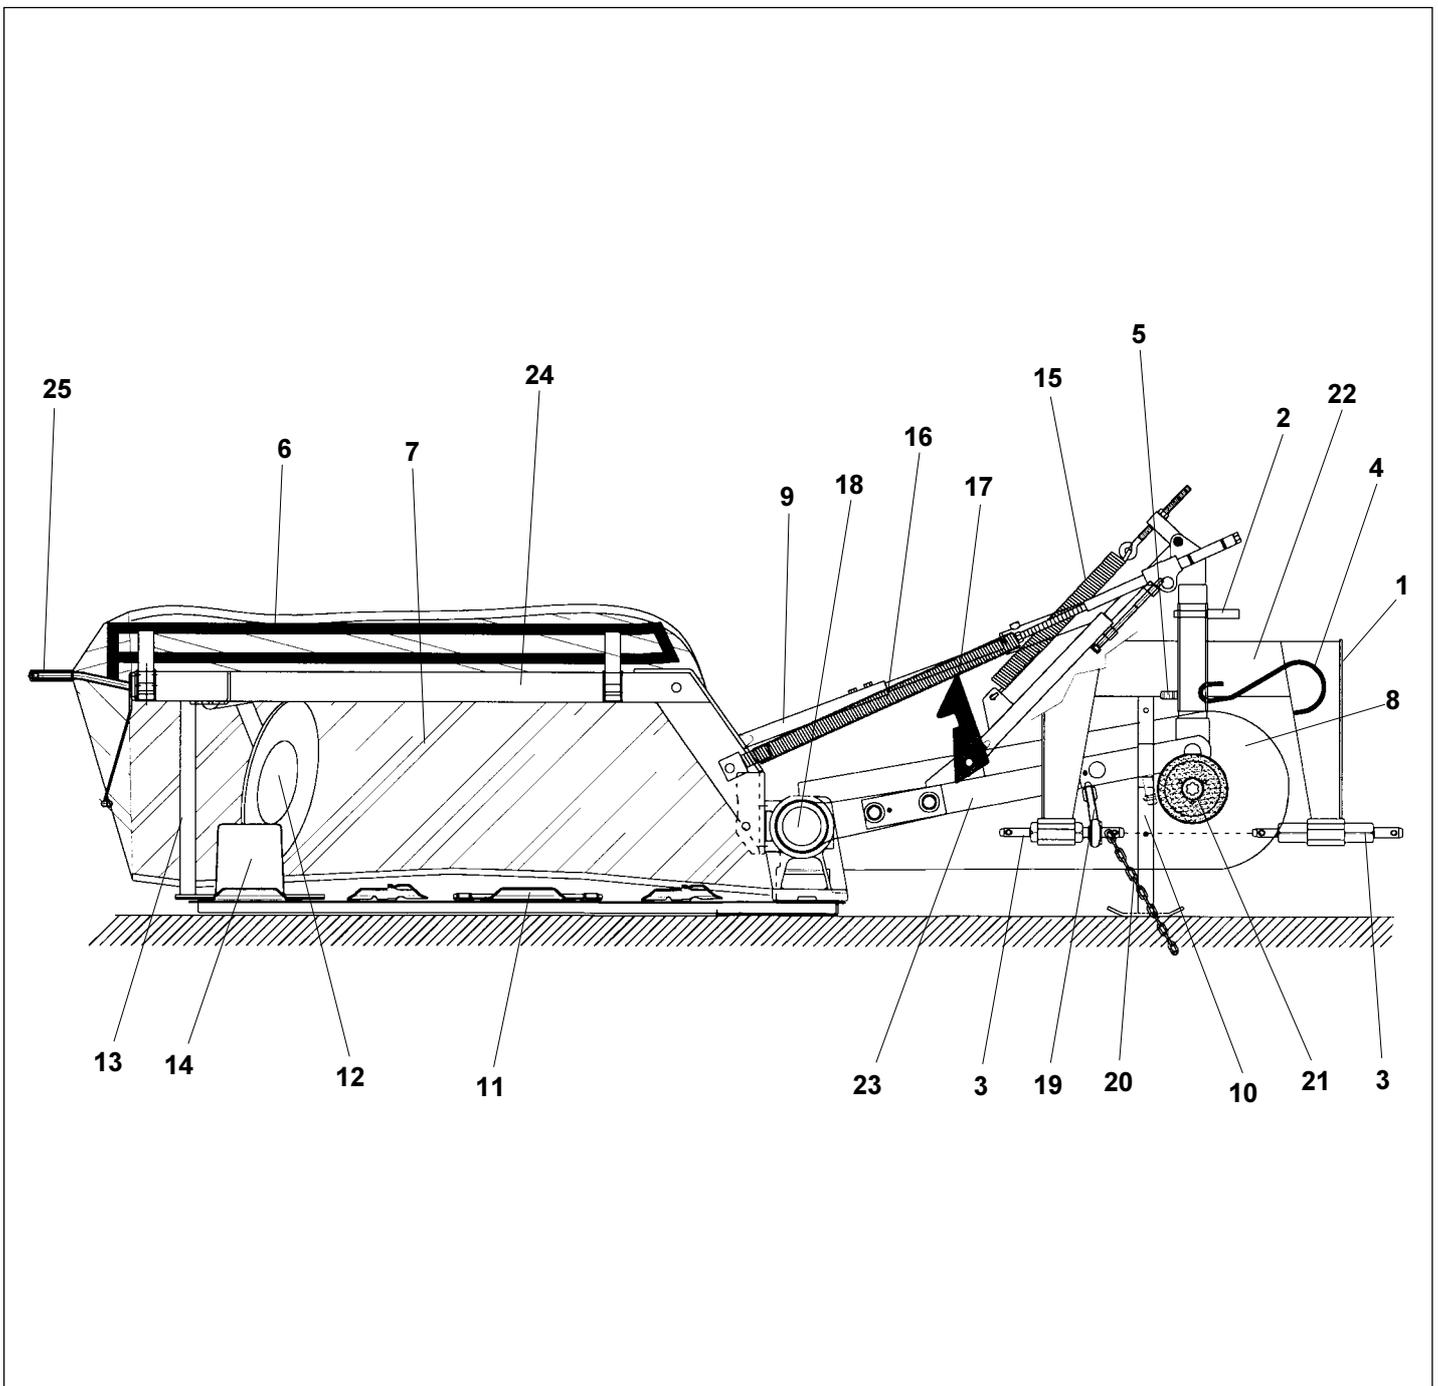

Fig. 1
Each machine is provided with an identification plate (1 fig. 1) bearing the following data:
1.2.4 IDENTIFICATION OF THE MAIN COMPONENTS (FIG.1)